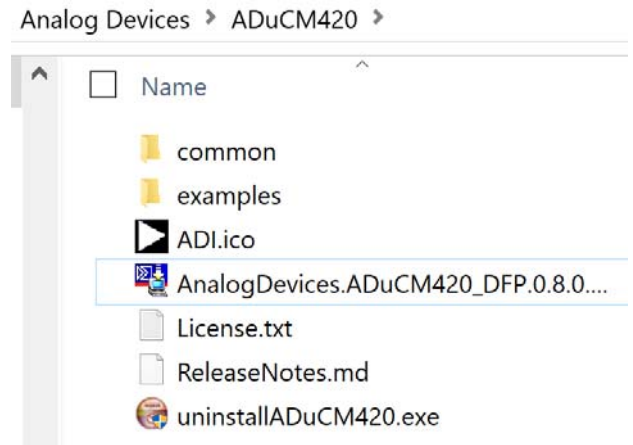

Figure 5. ADuCM420 examples Folder with Projects
3. After installation, the `\AnalogDevices\ADuCM420` folder opens. This location contains the **examples** folder that stores the example codes for the ADuCM420 (see Figure 5).